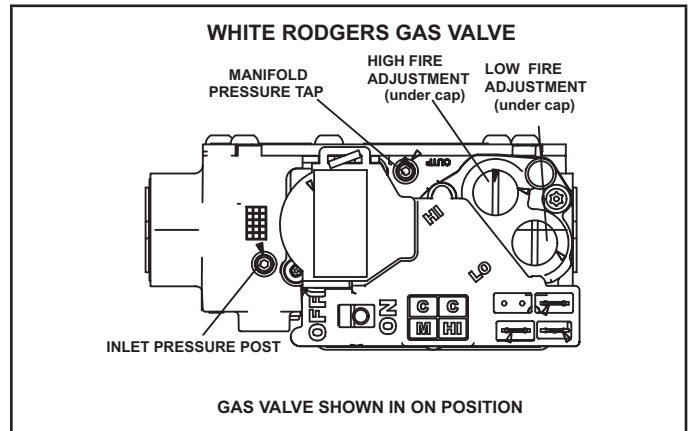

FIGURE 51
Gas Valve Operation (FIGURE 51)
- 6 - Move gas valve switch to **OFF**. See FIGURE 51.
- 8 - Move gas valve switch to **ON**. See FIGURE 51.
An inlet post located on the gas valve provides access to the supply pressure. See FIGURE 51. Back out the 3/32 hex screw one turn, connect a piece of 5/16 tubing and connect to a manometer to measure supply pressure. See TABLE 32 for supply line pressure.
A manifold pressure post located on the gas valve provides access to the manifold pressure. See FIGURE 51. Back out the 3/32 hex screw one turn, connect a piece of 5/16 tubing and connect to a manometer to measure manifold pressure.
- 5 - If necessary, make adjustments. FIGURE 51 shows location of high fire and low fire adjustment screws.